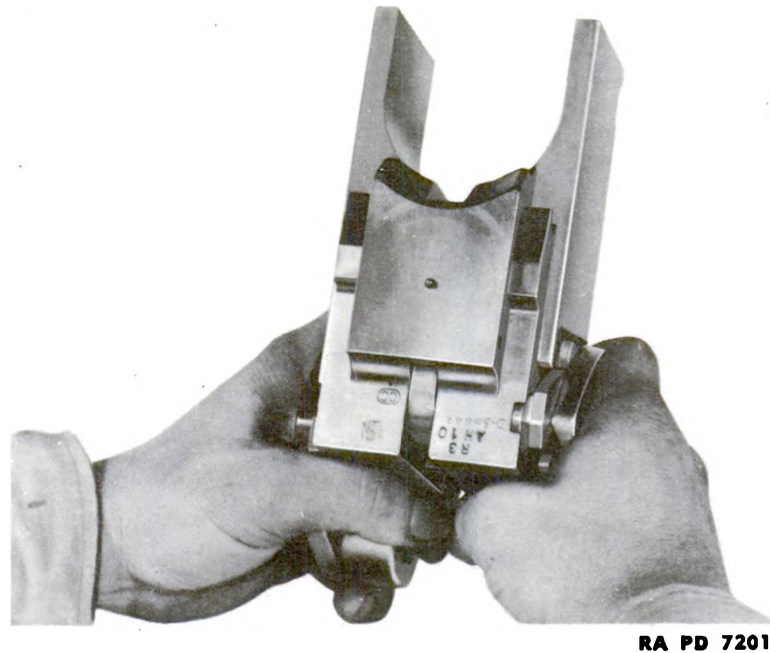

Figure 128 – Breechblock and Inner Cranks Held for Assembly
(1) Insert the lugs of the left and right breech ring inner cranks in the grooves in the sides of the breechblock. Hold these parts in the manner illustrated in figure 128. Holding the parts in this manner will automatically cock the percussion mechanism.